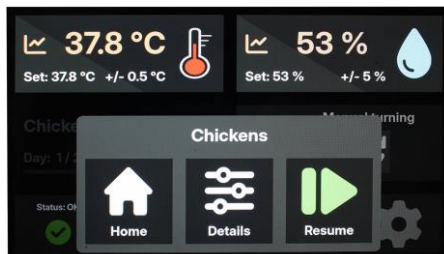

fig. 8
- ➔ The menu from step 1 opens again – instead of “Pause”, it now shows “Resume” (fig. 8).